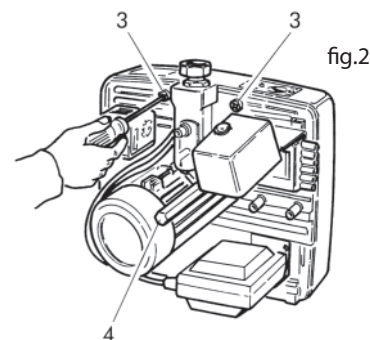

fig.2
- Unscrew the screws 3 and the central pin 4 (fig.2).